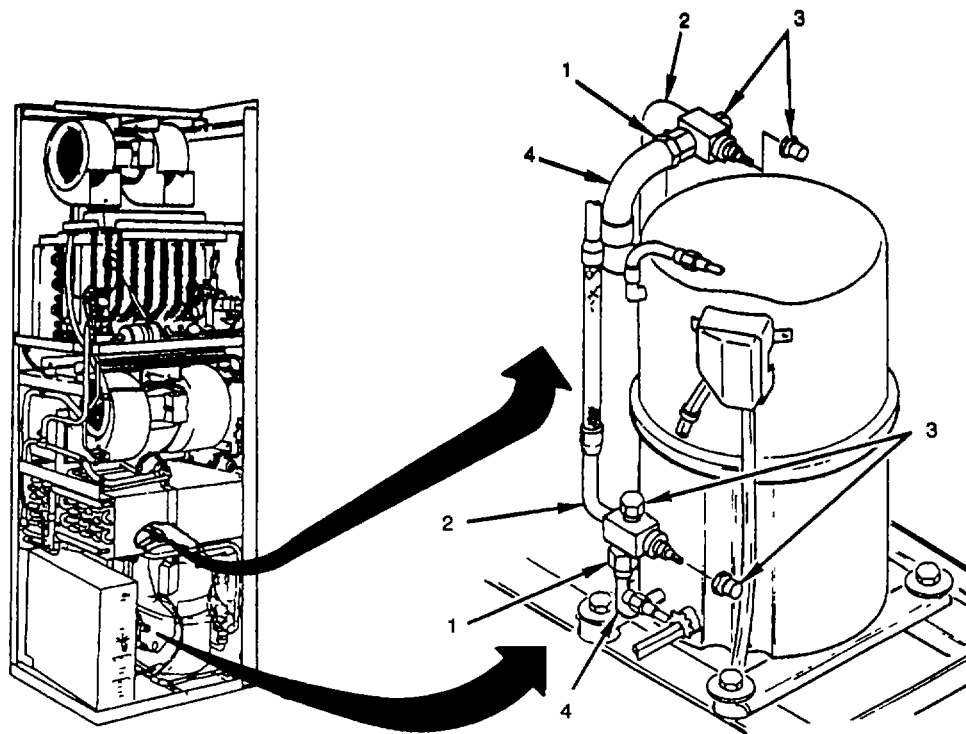

Figure 5-27. Service Valves (V9 and V8) (Discharge and Suction)
- (1) Disconnect air conditioner input power at source;
- (2) Remove compressor section panel (paragraph 4.24);
- (3) Remove control box "paragraph 4.27); and
- (4) Discharge system (paragraph 5.10).
- a. Inspect *for* evidence of leaks damaged lines and loose or missing mounting hardware (see fig. 5-27).